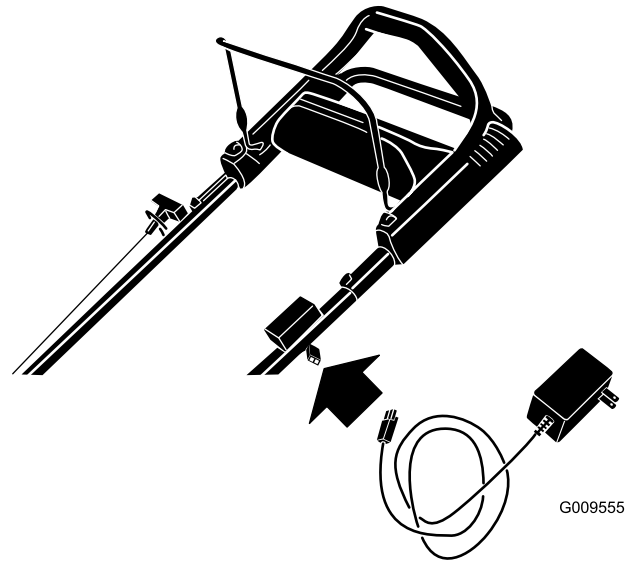

Figure 37
1. Connect the charger to the wiring harness located below the electric-start button (Figure 37).
Note: Your machine comes with a spare fuse attached to the battery-charger box (Figure 37).